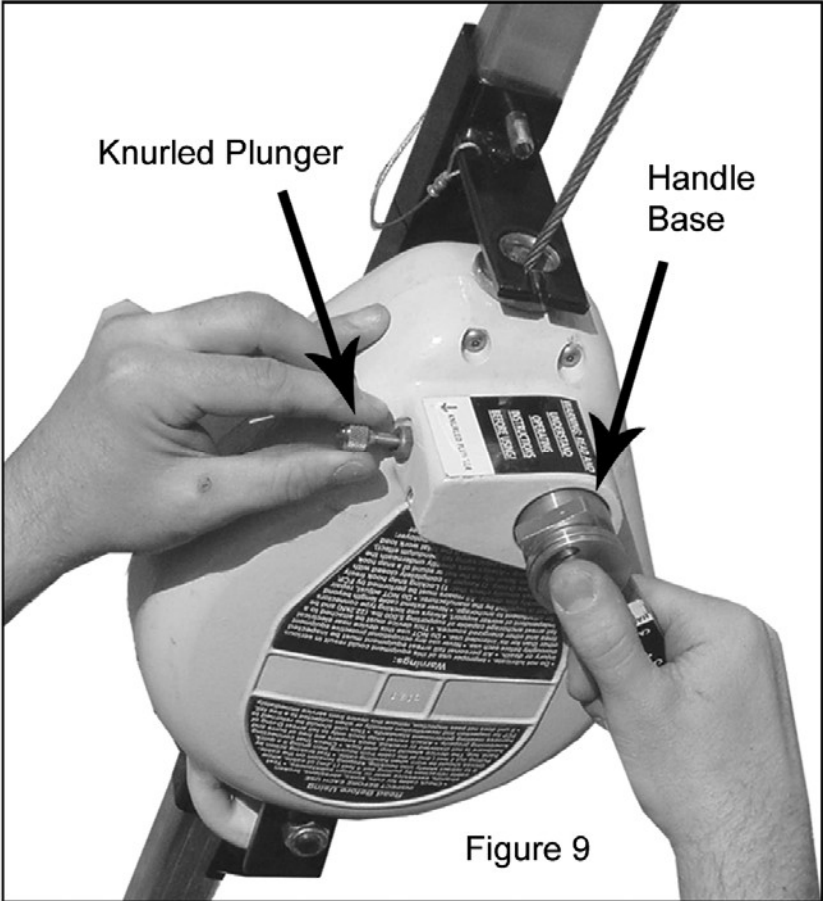

Figure 9
2. Push straight in on the base of the handle, giving the handle a turn clockwise to ensure that the gears mesh properly. (Figure 9)